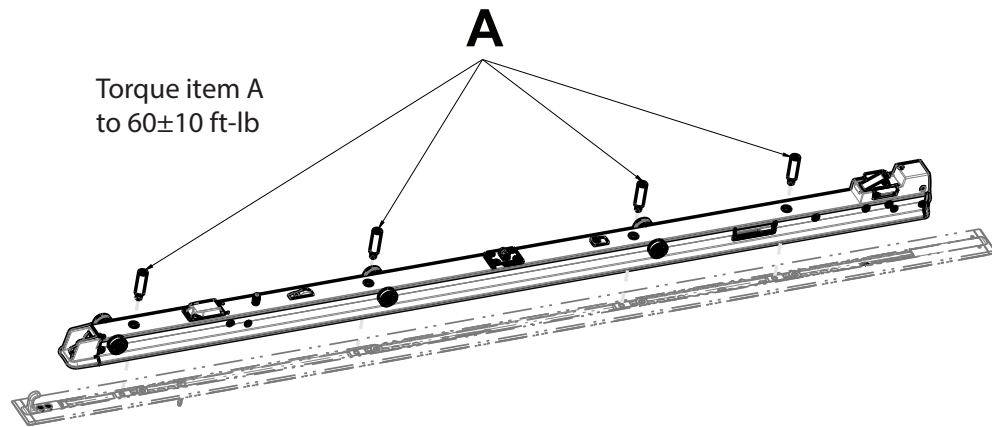

Figure 46 – Remove the anchor mounting posts
3. Using a 3/8" hex driver, remove the four anchor mounting posts (A) that secure the anchor to the floor plate (Figure 46). Save the mounting posts.